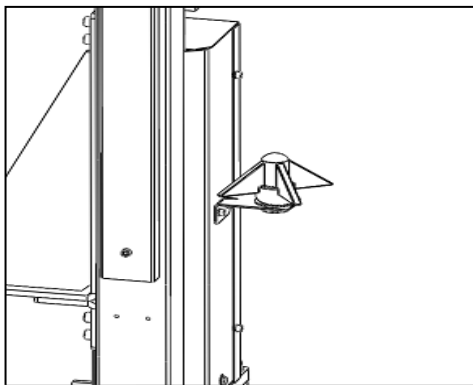

FIG 37
6.1.7 The press block includes the taper block (FIG34-1) and upper press block (FIG34-2) and the taper block can twist into the upper block. When press the rim center (FIG35), need to use the taper block and just need the upper block when do the common operation and put the taper one onto the bracket (FIG37).